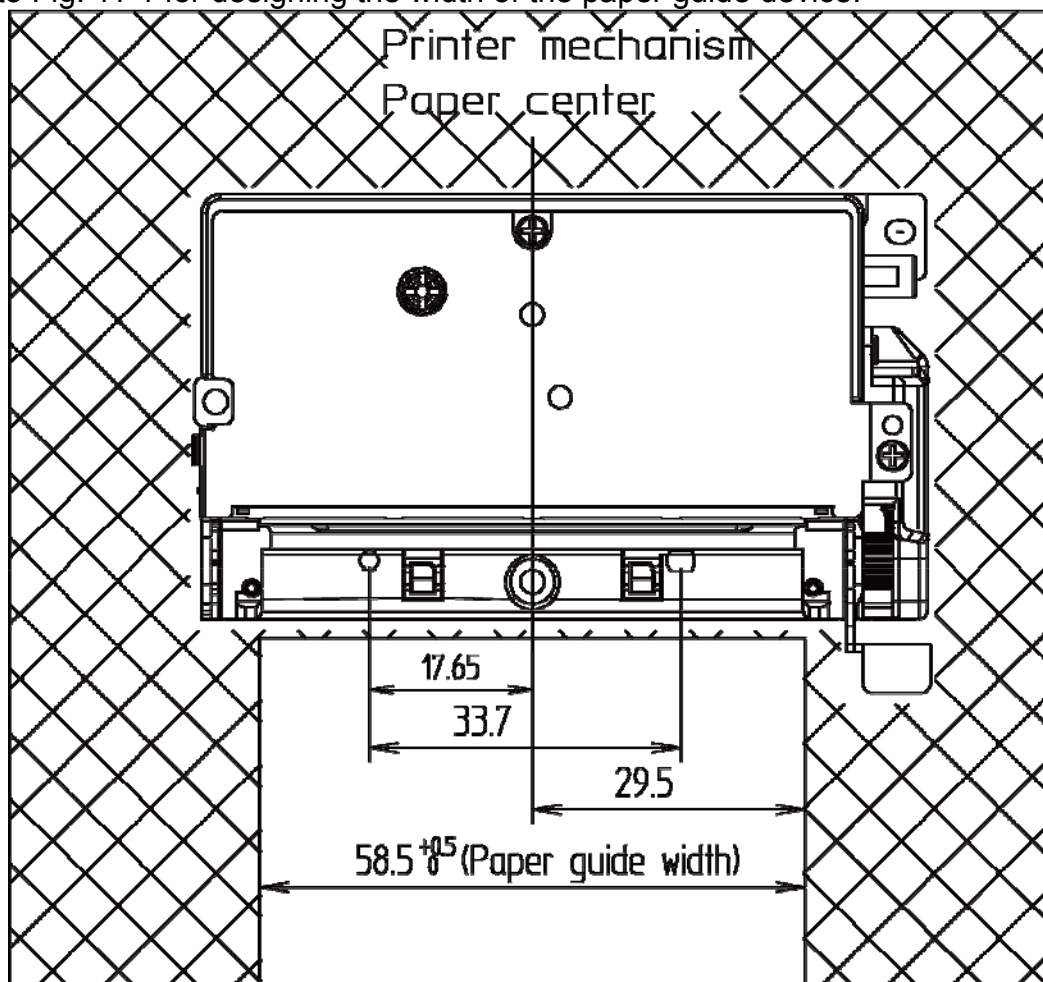

Fig 11-1 Dimension of width and position of the paper guide device
- Refer to Fig. 11-1 for designing the width of the paper guide device.